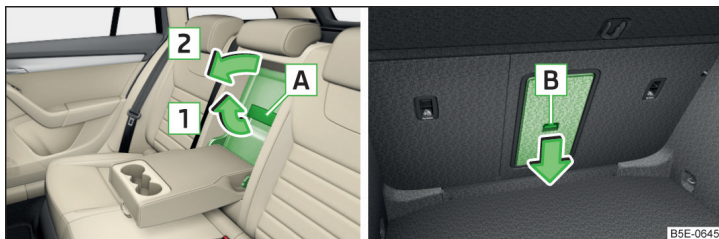

Fig. 115 Open lid: from the passenger compartment / from the luggage compartment
- › Press on the lid in the upper area and pull on the handle **A** in the direction of the arrow **1** at the same time and fold down the cover in the direction of the arrow **2** » Fig. 115.
- › Fold the rear armrest and the cover in the seat backrest downwards » Fig. 115 on page 98.